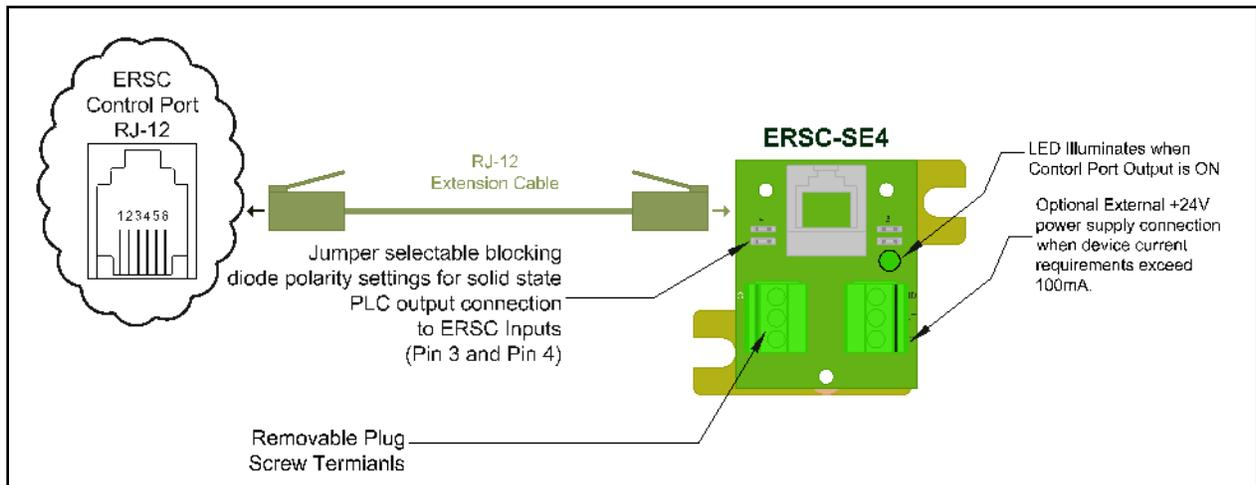

FIGURE 36 - ERSC-SE EXAMPLE
*Sensor and Control Port Fusing* on page 21), you can optionally connect an external +24V power source to the "+24V" terminal on the SE-4 to provide power to devices connected to the SE-4. Without this external power source, the current limit is 100mA on devices powered from the 24V terminal. The SE-4 contains blocking diode on this terminal to prevent external power source from connecting to the ERSC's power bus. Figure 36 shows a typical ERSC-SE4 cable connection.